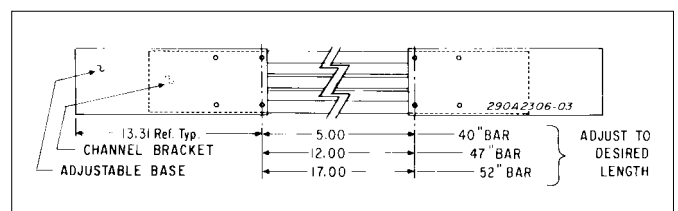

Figure 4.
7. Slide the adjustable base to the new length. Reinstall the four #10 screws, removed in step 6, in the adjustable base (see figure 4).